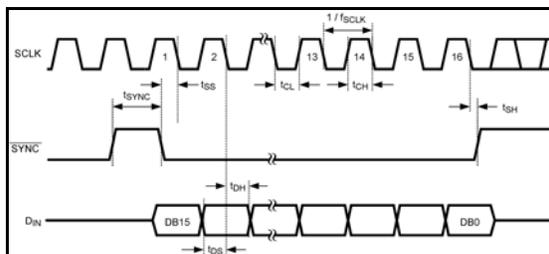

Figure 2: Digital Input Timing Diagram
5. Create the digital waveforms seen in *Figure 2* with your Logic Generator. Ensure that SCLK does not exceed 40MHz. Refer to the DAC128S085 Datasheet for further details.
In *Stand-Alone Mode*, the serial interface must be driven by an external device. The three-wire interface (SCLK, SYNC, D_{IN}) is compatible with SPI, QSPI and MICROWIRE, as well as most DSPs. See the Timing Diagram (*Figure 2*) for information on a write sequence.